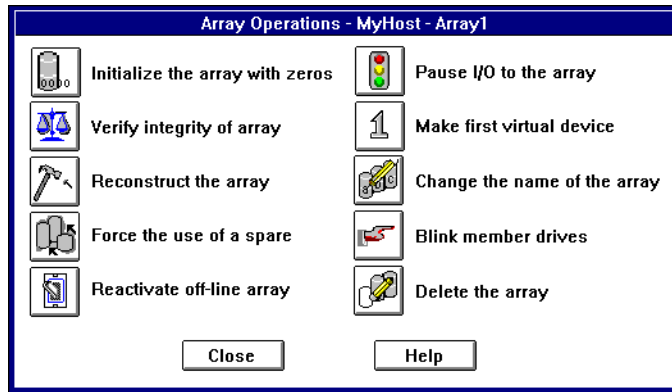

Figure 10-1. Array Operations Dialog Box
- 8 Click the **Operations** button. The Array Operations dialog box appears, as shown in Figure 10-1.